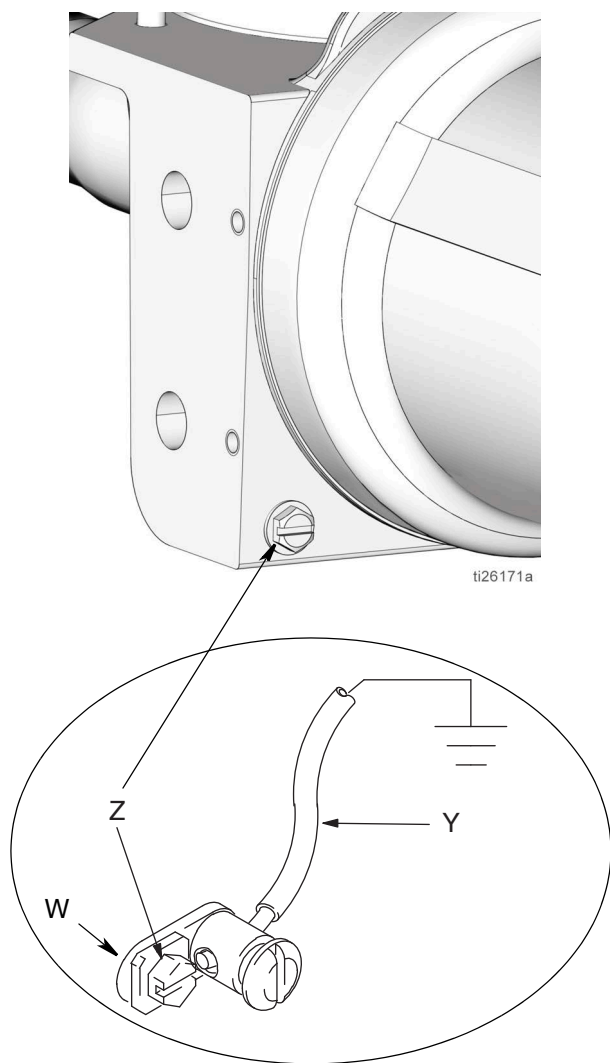

FIG. 2
**To ground the pump:** Remove the ground screw (Z) located on the back of the pump base and insert it through the eye of the ring terminal (W) at end of ground wire (Y). Fasten the ground screw (Z) back onto the pump and tighten securely. Connect the other end of the ground wire to a true earth ground. See FIG. 2.